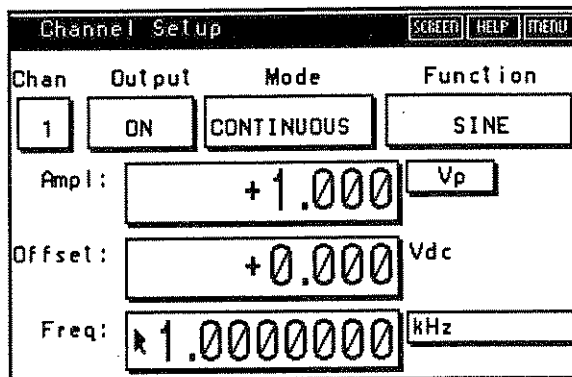

Figure 2-13. Changing Frequency
5. **Frequency Check.** Connect the Arb Channel to the scope as described in step 3. Vary the frequency by placing the mouse pointer in the Freq: field and clicking the left mouse button. Next, place the pointer on the most significant digit, 1, and click the left mouse button several times. See figure 2-13. Observe the increasing frequency on the scope.